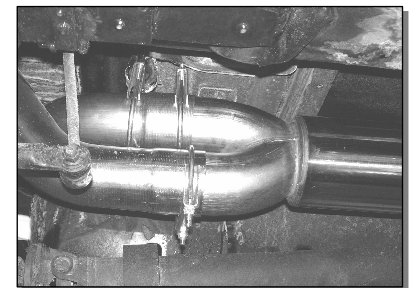

Figure 9
- Position the **Muffler** outlets vertically. **See Figure 9.**